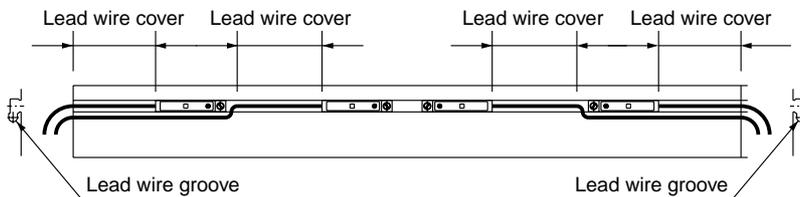

Figure 1. Auto switch mounting position
When multiple lead auto wire switches are used, be sure to use the lead wire groove and pull the lead wires out from the edge of the cylinder. (Bold lines in Figure 1 indicate lead wires.)
2. Cut the lead wire cover to the desired length using a cutter or tube cutter. (Refer to Figure 1.)